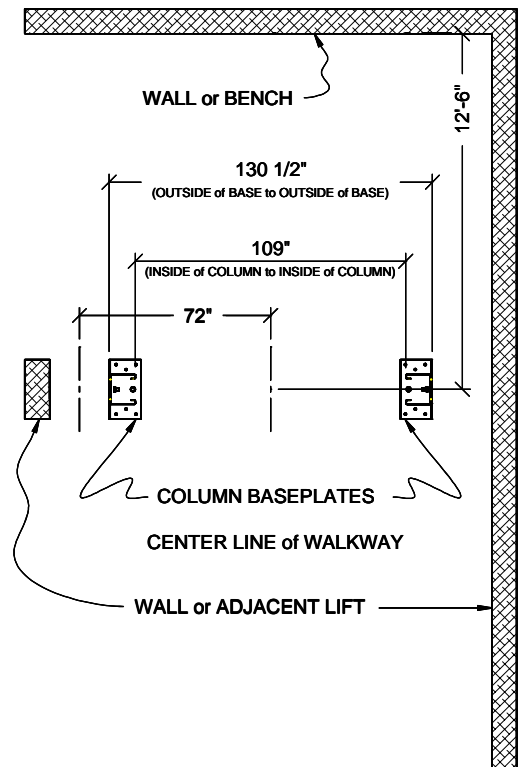

Fig 1A
- 2A. Erect both column assemblies, spacing them as shown in **Figure 1A**. Align the columns with the installation lines (**See Figure 1A**) and drill the holes for the anchors using the base plate as a template. Clean the dust from the holes. Obtain the anchor bolts from the hardware box and assemble the nut and washer to the bolt, leaving about 1/4" of thread above the nut. Insert the anchors into each hole as it is drilled and tap it down to the base plate. If the floor is excessively uneven, you may wish to leave more thread exposed.